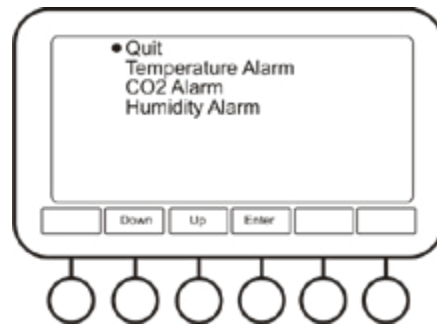

Fig. 9. Alarm Settings menu
4.9.3.2.1 **Alarm Settings** (fig. 9). User can set the alarm settings based on values of temperature, CO₂ level, and relative humidity. All alarms are working on the following principle, temperature taken as an example: